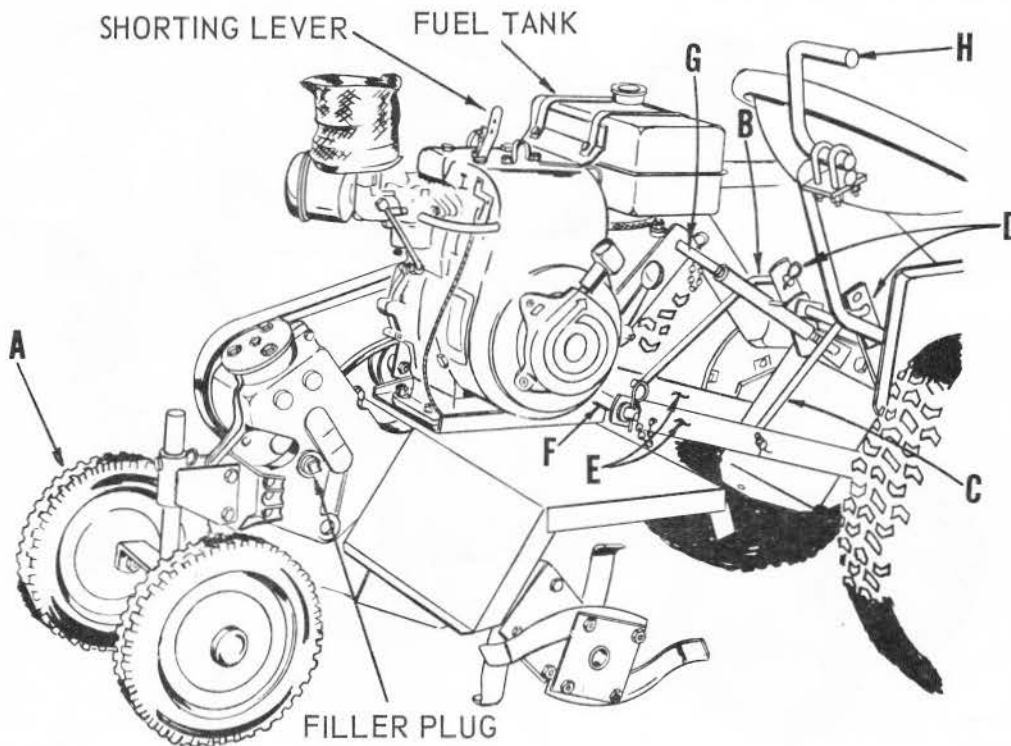

FIG. 1
1. Refer to Fig. 1. Remove Spader and parts from carton and lay out for assembly. Cut all wires. **IMPORTANT** – Fill transmission with oil before filling engine with oil, or attaching to tractor.
2. Refer to Fig. 1. Place Spader on level ground where tractor can be backed up to Spader for assembly. Adjust Spader gauge wheels (A), so that engine is level.
4. Refer to Fig. 1. There are two new lift links furnished with Spader. Assemble these new L.H. and R.H. lift links (B and C), to inner holes of each lever crank (D), as shown and secure with retainer springs provided.
5. Refer to Fig. 1. Attach lower ends of R.H. and L.H. links (B and C), to bottom links (E), as shown and secure with retainer springs.
8. Assemble adjustable top link (G), to upper hitch bar. Refer to Fig. 1.
9. Assemble lift handle extension (H), to lift lever with U bolt plate and huglock nuts. Tighten nuts securely. See Fig. 1.
Press shorting lever against spark plug to stop engine. Refer to Fig. 1.
1. At each engine oil change, check oil level in transmission at plug located on R.H. side of transmission. Refer to Figure 1. Oil level must be at bottom of plug with spader level. If necessary add S.A.E. 30 motor oil for service MM. Transmission capacity 3 qts.